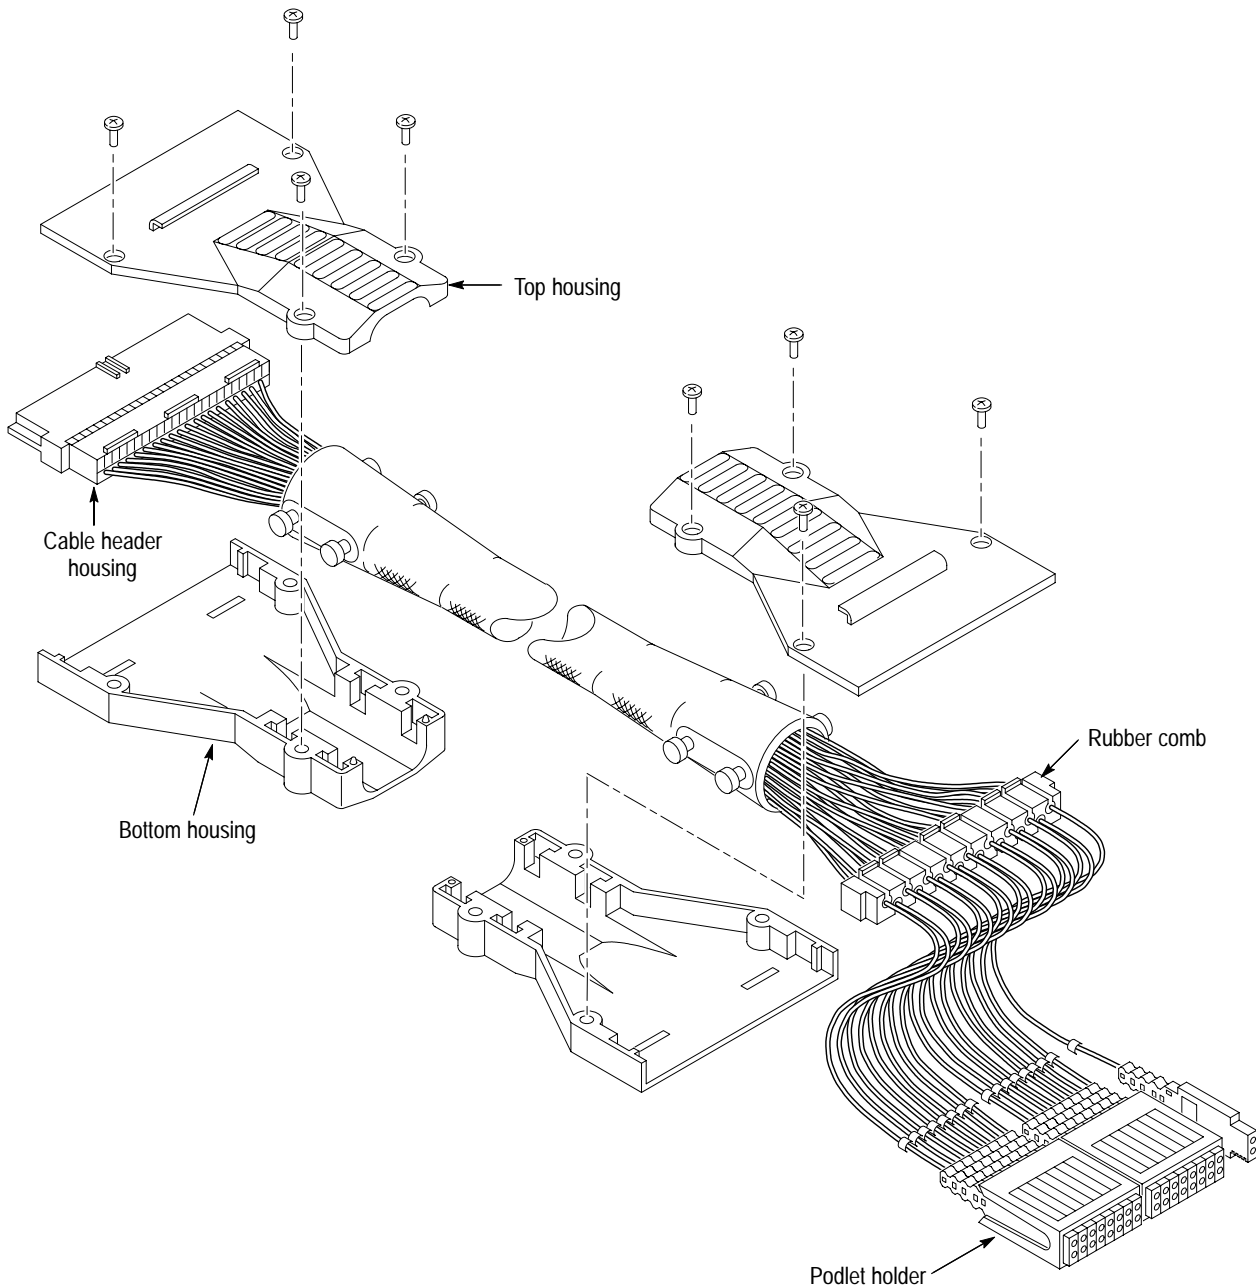

Figure 10: Disassembling the probe cable
- Using the screwdriver with the #1 Phillips tip, remove the four screws on the probe housing on the module end of probe cable (see Figure 10).
21. Reinstall the top and bottom probe housings on the module end of the probe cable in the following manner (refer to Figure 10 on page 27 if necessary):